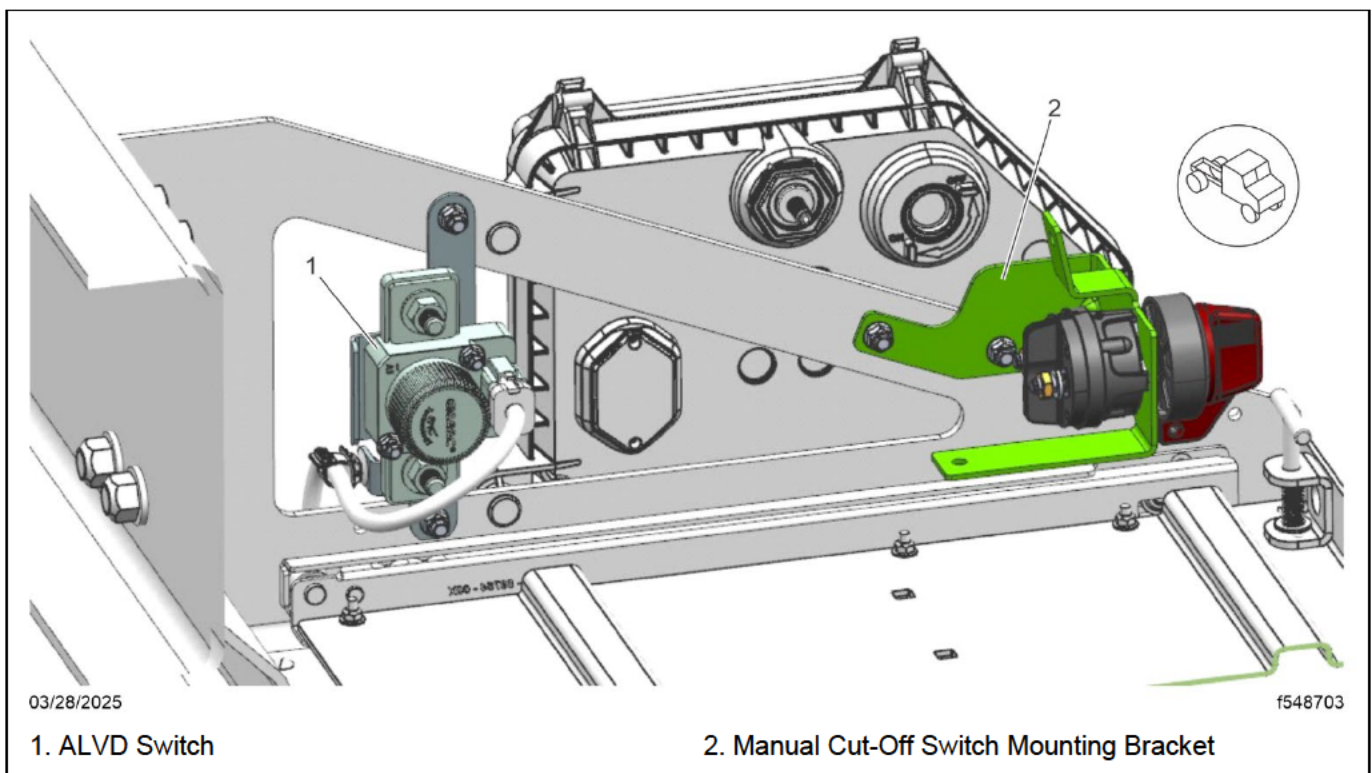

Fig. 5, ALVD Switch
- Remove the manual cut-off switch bracket, shown as item 2 in Fig. 5.
13. Install the ALVD switch (06-97110-000), shown as item 1 Fig. 5. For detailed instructions, see drawing D66-26015-000. Tighten the fasteners 11 lbf·ft (15 N·m).